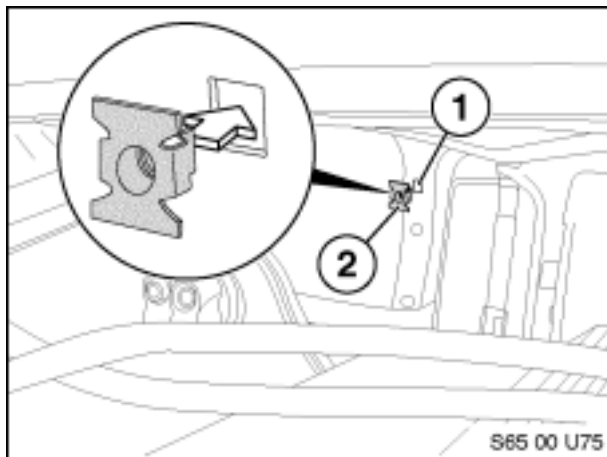

Figure 5
- 1.11 See Figure 5. If there is a square hole in this location (1), install a kit supplied cage clip nut (2) in this location as shown.